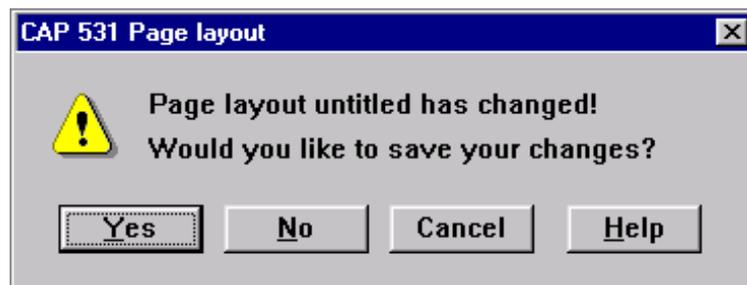

Fig. 62 The CAP 531 page layout dialogue box.
- 1 Select 'Close' or 'Close All' in the File menu. If you have not saved the page layout, the dialogue box in Fig. 62 appears.